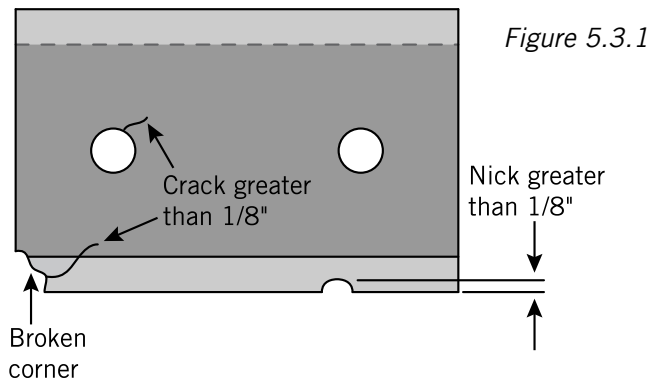

Figure 5.3.1
- There are cracks, broken corners or nicks greater than 1/8" (see Figure 5.3.1).